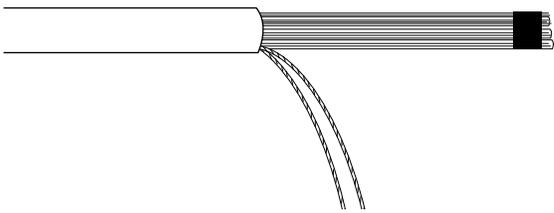

Figure 23
5.13 Carefully separate the rip cords from the aramid yarn and other components of the cable core. Place a wrap of tape around the cable core to hold these components in place (Figure 23).